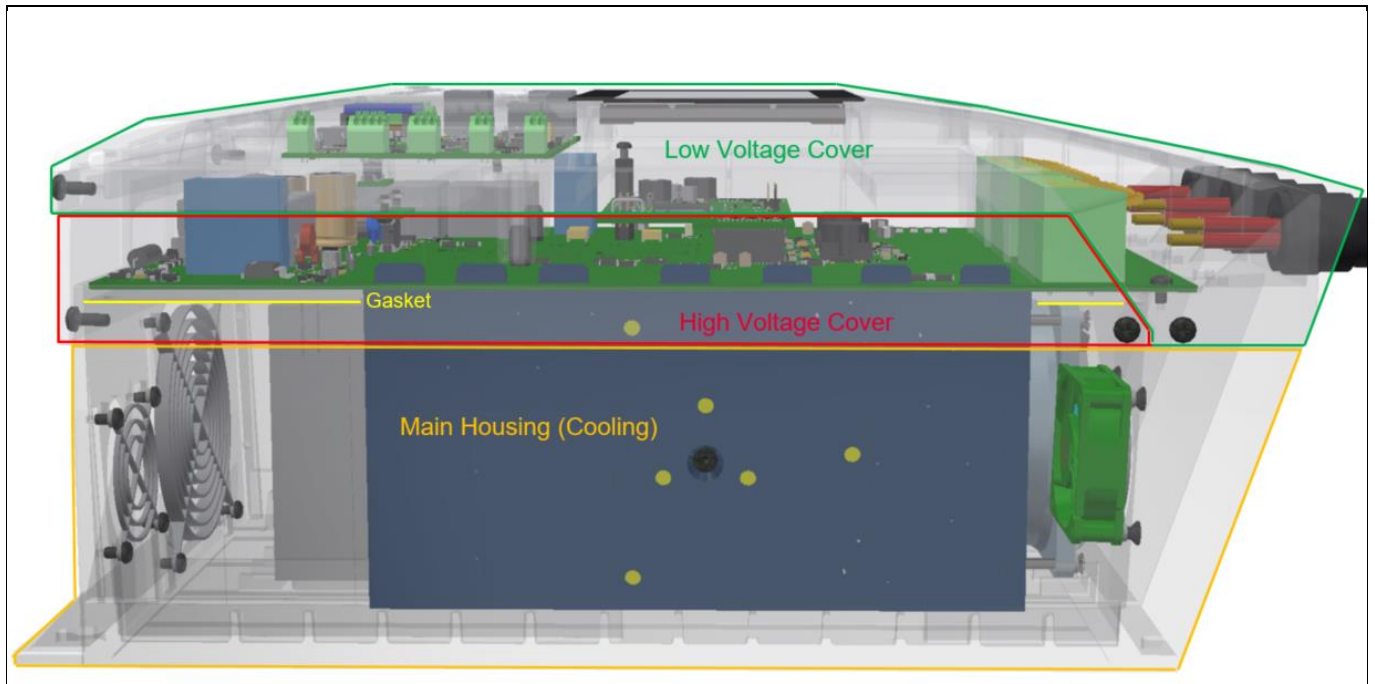

Figure 17 Covers of the drive system
The inverter enclosure consists of three separate parts that are screwed together as seen in Figure 17.
4. The main housing encloses all the electronic components and the cooling system, which are located there. The power electronics at the upper or front level of the main housing are separated from the main airflow over the heat sink, and potential dirt and dust, by a gasket. See Figure 17.